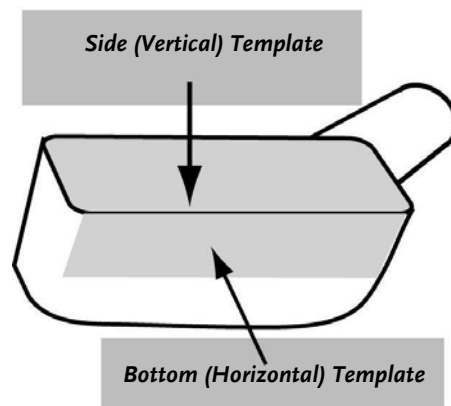

Figure 20
- h) Cut two (2) Template Boards (**Figure 20**) from the Kit corrugated Shipping Carton. One should be large enough to cover the entire side (vertical) of the Universal Deck Adapter and the other should cover the bottom (horizontal) area that will be cut from the Universal Deck Adapter.